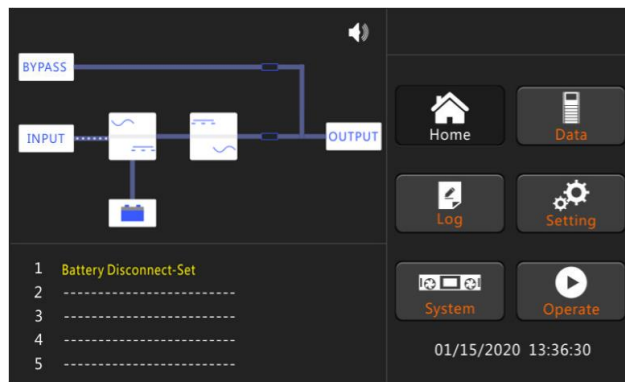

Fig.4-1 LCD of rectifier starting
2. Close the output circuit breaker (CB) and then the input CB and the system starts initializing. If the system has dual inputs, close both input breakers.
3. The LCD in front of the UPS is lit up. The system enters the home page, as shown in Fig.4-1.
4. The LCD home interface shows that the system rectifier is working, the indicator flashes, as shown in Figure 4.1.